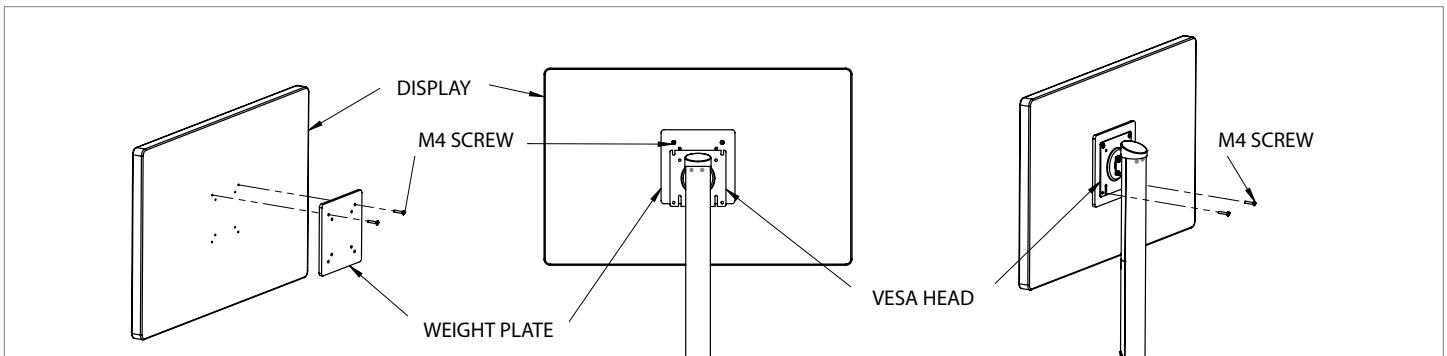

Figure 2
3. Partially thread **2X M4 22 MM SCREWS** (provided) through the *COUNTERWEIGHT PLATE* and into top 2x VESA holes on the *DISPLAY* (not provided) (**Figure 2**).
4. Hang the *DISPLAY* and *COUNTERWEIGHT PLATE* from 2x slots on the VESA Head (for VESA 100 use outer slots, for VESA 75 use inner slots. Ensure slot opening is facing up for the configuration needed (**Figure 2**).
5. Insert remaining **2X M4 22 MM SCREWS** through the *COUNTERWEIGHT PLATE* and into the *DISPLAY*. Tighten all **SCREWS** (**Figure 2**). If the thread depth is short in the *DISPLAY*, place 1x or 2x *SPACERS* between the VESA Head and *SCREW* as required.